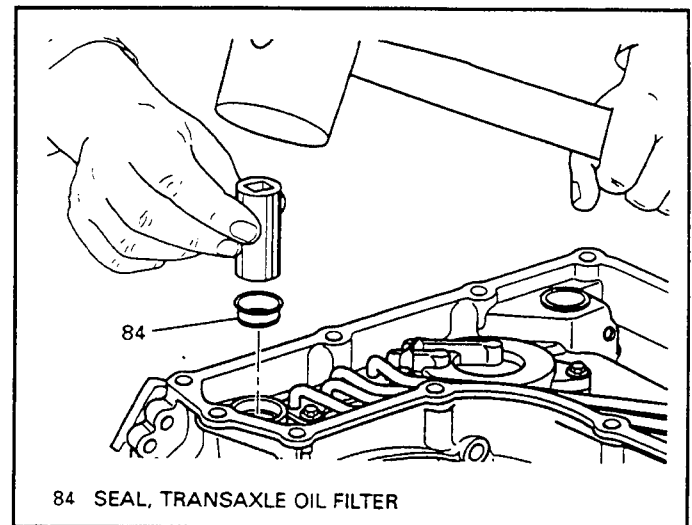

Figure 196
1. Install a new oil filter seal (84) in the transaxle case, as shown in Figure 196. Tap gently and evenly on the seal to prevent damage to case bore and seal, using a large socket to tap seal into position (See Figure 196).